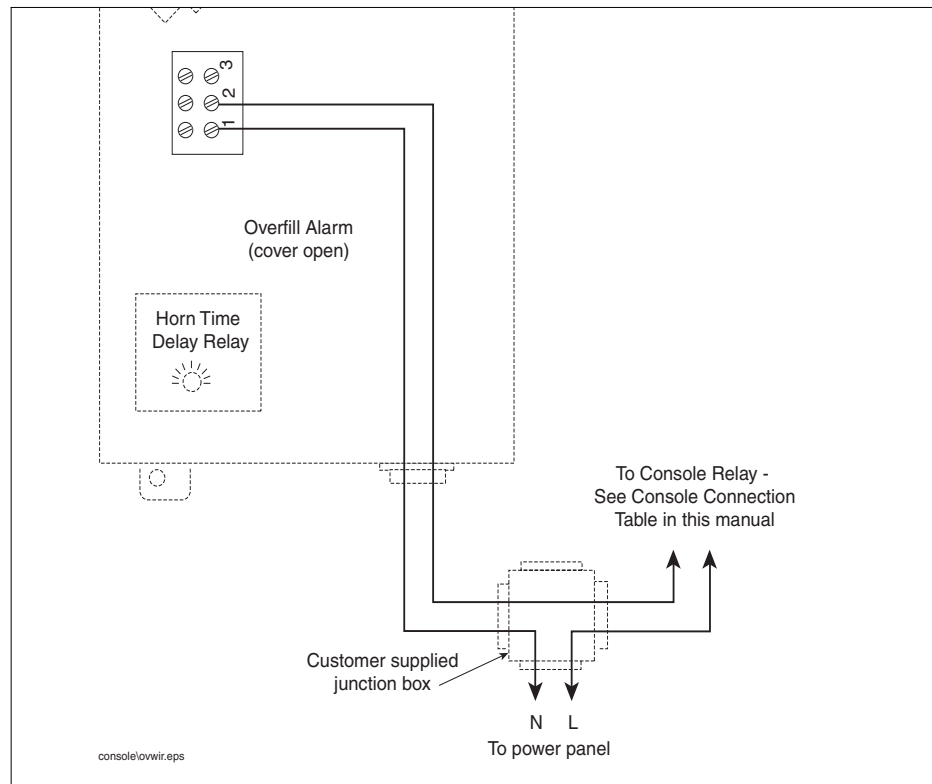

Figure 4. Overfill Alarm only wiring connections
4. Turn power Off and connect wiring according to the wiring diagram in Figure 4 and Table 1.
Overfill Alarm without Acknowledge Switch (see Figure 4)